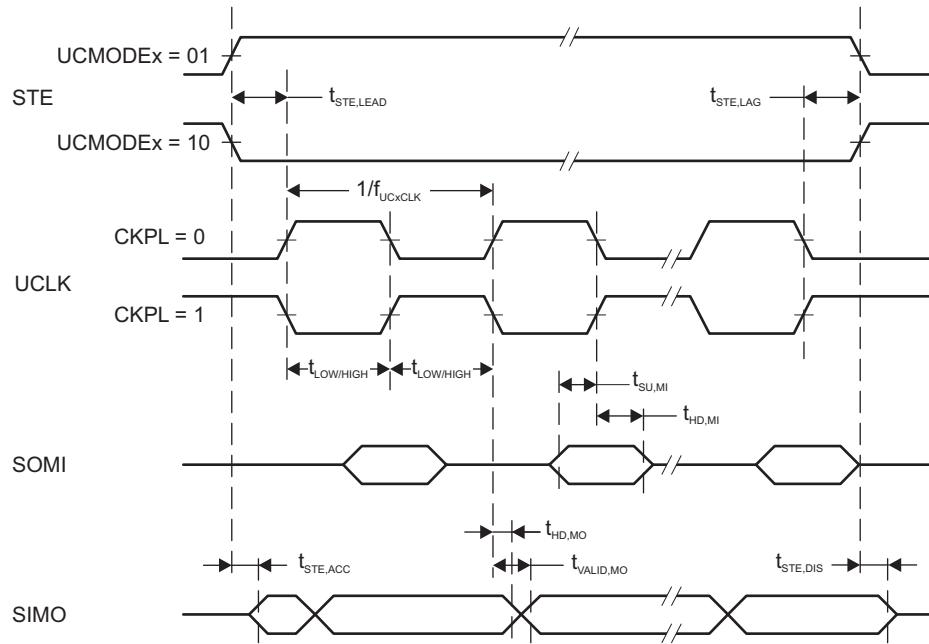
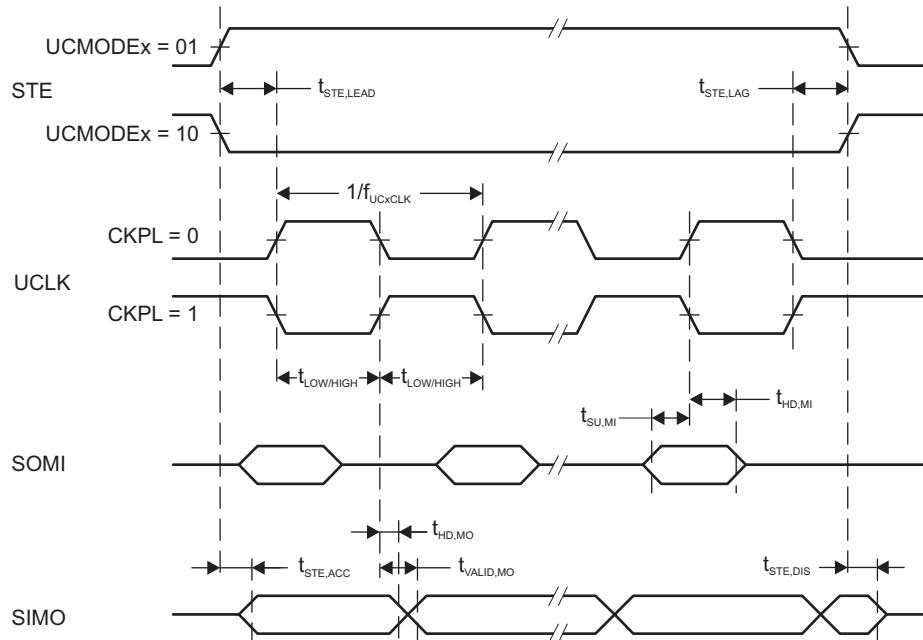

Figure 5-13. SPI Master Mode, CKPH = 0
Figure 5-14. SPI Master Mode, CKPH = 1
(2) Specifies the time to drive the next valid data to the SIMO output after the output changing UCLK clock edge. See the timing diagrams in Figure 5-13 and Figure 5-14.
(3) Specifies how long data on the SIMO output is valid after the output changing UCLK clock edge. Negative values indicate that the data on the SIMO output can become invalid before the output changing clock edge observed on UCLK. Refer to the timing diagrams in Figure 5-13 and Figure 5-14.